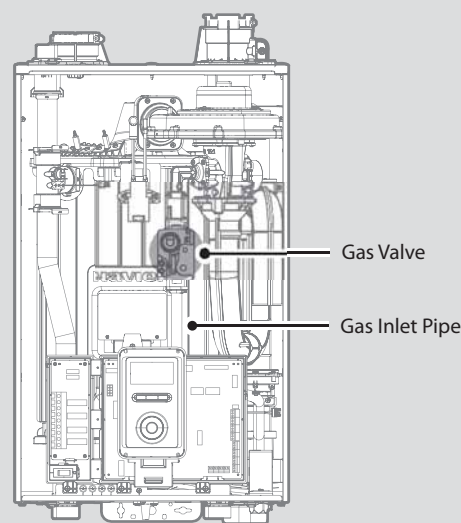

Figure 2. NFB-H Series Internal Manometer
4. With the internal components exposed, locate the gas inlet pipe and the gas valve, as shown in Figure 2.